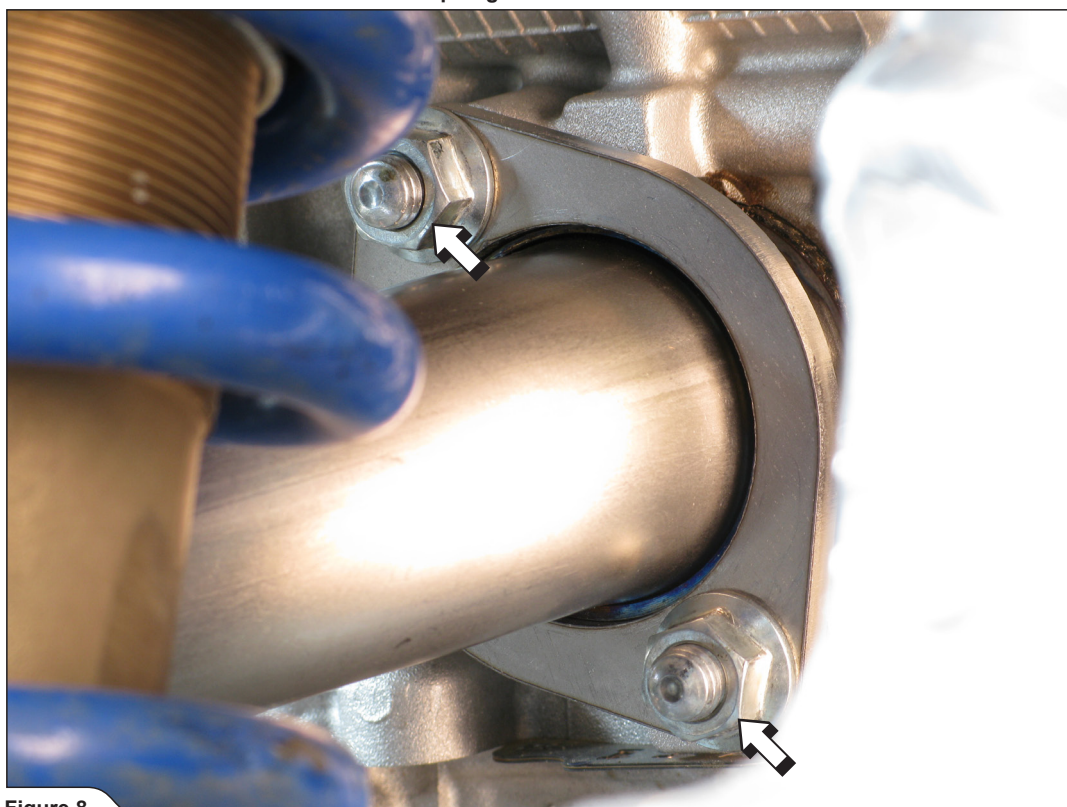

Figure 8
3. Install the header pipe and hand tighten the two marked stock nuts (**Figure 8**).